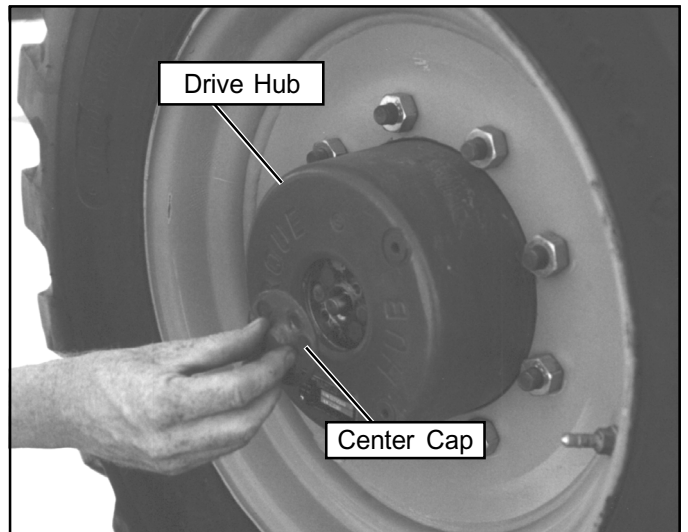

Figure 6: Disengaging Drive Hub
3. Refer to Figure 6 and disengage all four drive hubs. Remove two screws and center cap. Reinstall center cap in the opposite direction.